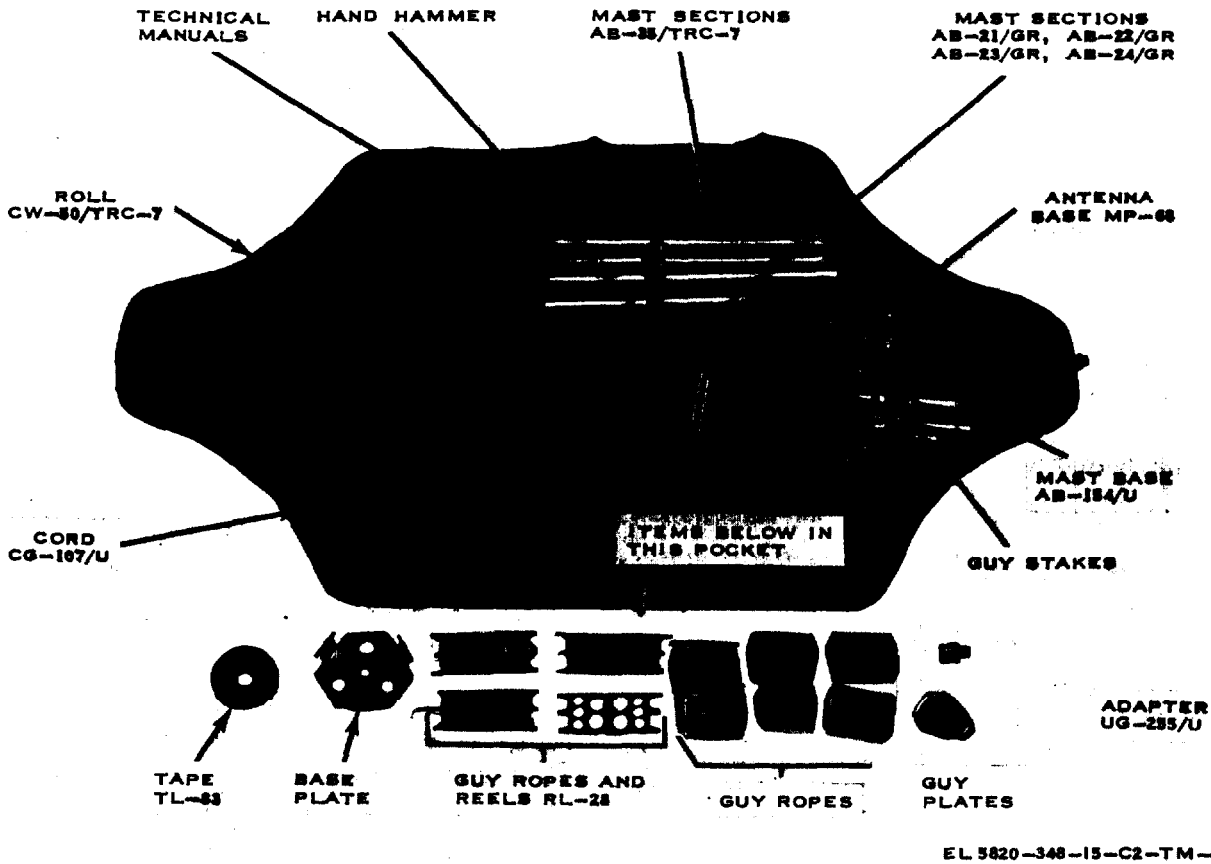

Figure 5-1. Antenna Equipment RC-292 packed in Bag, Roll CW-50/TRC-7.
- a. Lay out the CW-50/TRC-7 as shown in figure 5-1.